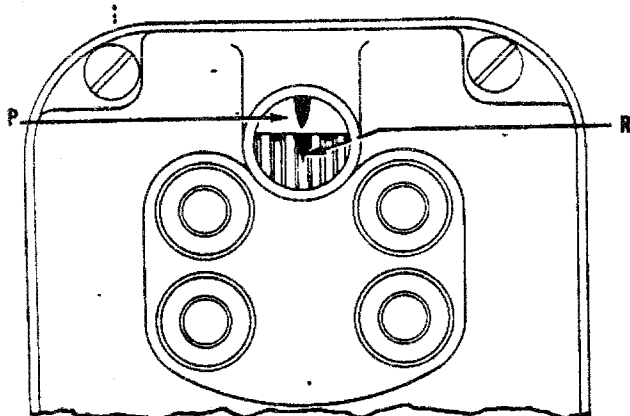
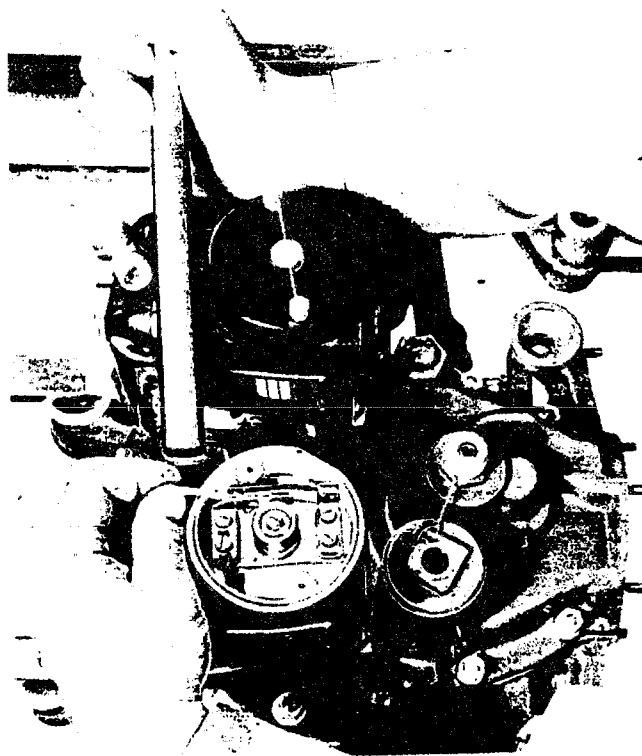

Figure 41. Showing Magneto Timing Marks.
Figure 42. Timing Magneto.
- (1) Set the piston of cylinder No. 1 at its firing position.
- (2) Place the breaker in its full advance position (if variable spark magneto).
- (3) Rotate the magneto drive shaft until the timing mark R on the chamfered tooth of gear, Fig. 41, and timing pointer P are opposite each other as seen through the timing window in the magneto cover. At this position the breaker contacts should begin to open.
- (4) All adjustments for exact timing to the engine are made at the drive end and not by altering the position of the contact points. Insure that the mounting faces are clean and smooth. With the timing marks P and R
(Fig. 41) opposite each other, install the magneto on the engine and secure with its mounting bolts. Exact timing is obtained by turning the magneto through the angle provided by the slots in the magneto flange. A convenient way of checking this adjustment is to place a strip of .0015" shim stock between the contact points and pull on it slightly. When the shim stock slips, the contact points are just opening. (Fig. 42.)
(1) Place the breaker in its full advance position (if variable spark magneto).
(2) Turn the drive shaft until the mark R (Fig. 41) on the chamfered tooth of the large distributor gear is opposite the timing pointer P inside the magneto cover as seen through the timing window. When these two marks are opposite each other, the breaker contacts should be just opening. A convenient way of checking this adjustment is to place a strip of .0015" shim stock between the contacts and pull against it slightly. When the shim slips, the contacts are separating.